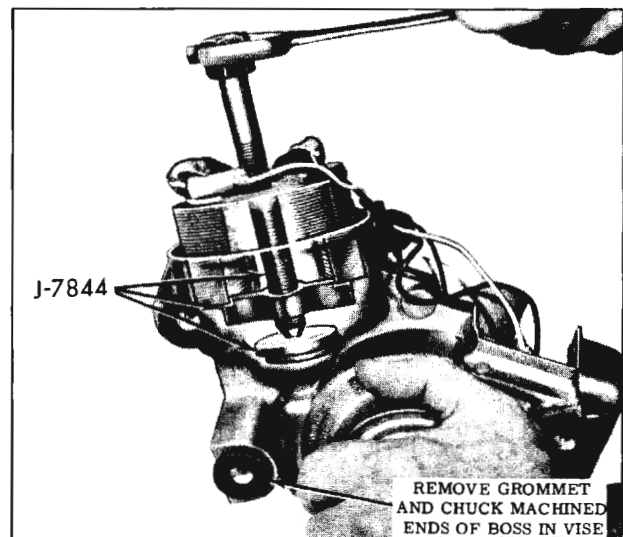

Fig. 14-175 Removing Field Coils
6. Remove field coil from housing using Tool J-7844 as shown in Fig. 14-175.